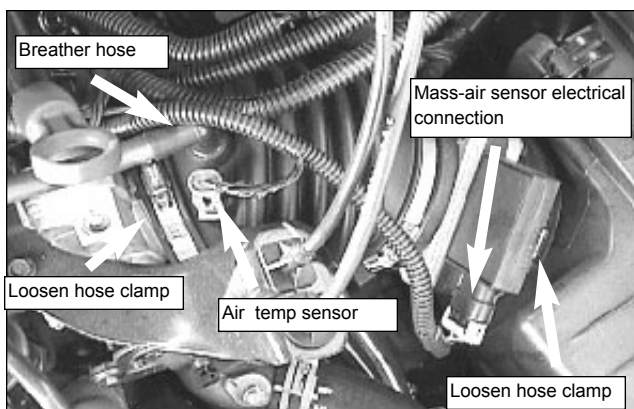

Fig. 1
1. Carefully remove the wiring connectors from Mass Air sensor & Air Intake Temp sensor. (Fig 1)
2. Carefully remove breather tube from air intake hose by gently pulling up on the tube where it goes into the air intake hose. (Fig 1)
3. Loosen the hose clamp on the air intake hose where it connects to the throttle body and the hose clamp that holds the Mass Air sensor to the airbox lid. (Fig 1)